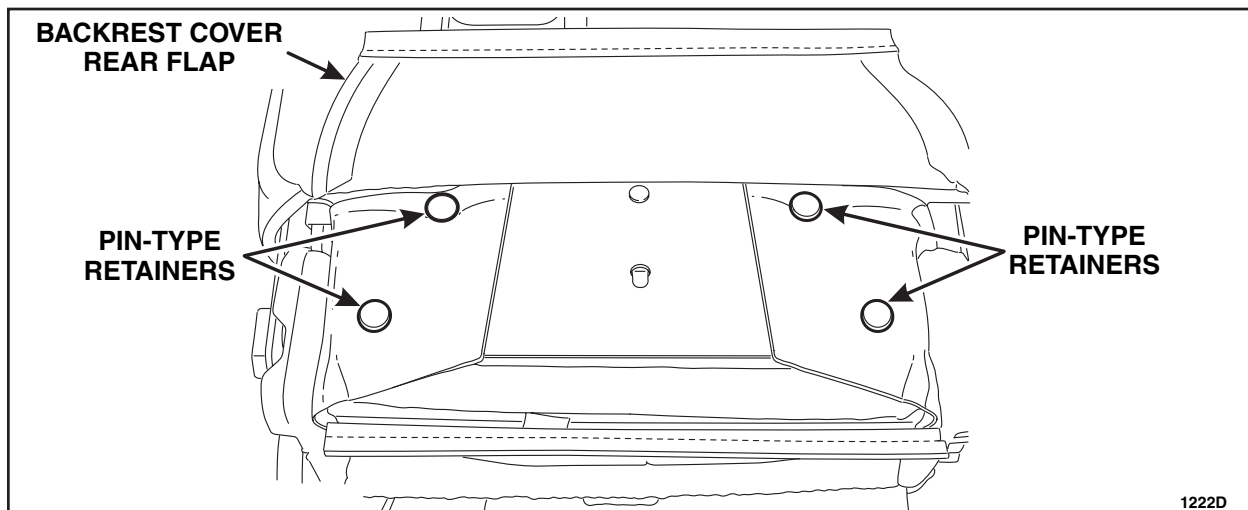

FIGURE 4
10. Position aside the backrest cover rear flap and remove the four (4) pin-type retainers. See Figure 4.
24. Position the backrest cover rear flap back and install the four (4) pin-type retainers. See Figure 4, on Page 3.